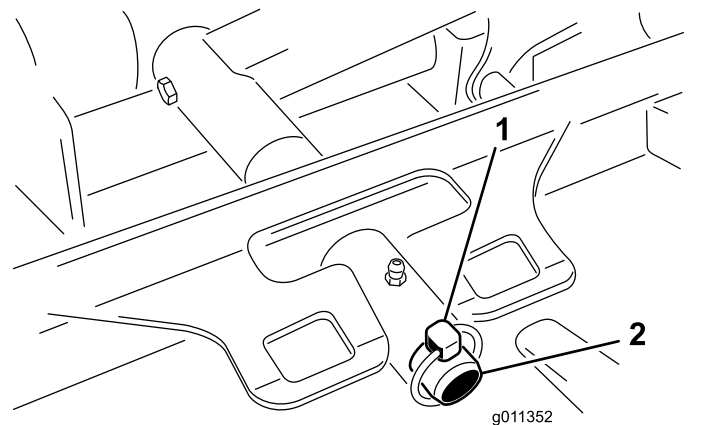

Figure 81
3. Remove the lynch pin (for Groundsmaster 4500 machines) or retaining nut (for Groundsmaster 4700 machines) securing the cutting unit-carrier frame to the lift-arm pivot pin (Figure 81).
2. Slide the cutting unit-carrier frame onto the lift-arm-pivot pin (Figure 81). Secure the cutting unit to the pin with the lynch pin (for Groundsmaster 4500 machines) or retaining nut (for Groundsmaster 4700 machines).